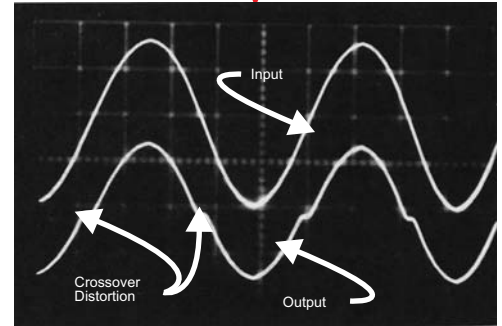

Figure 2
- You should observe crossover distortion as shown in Figure 2.